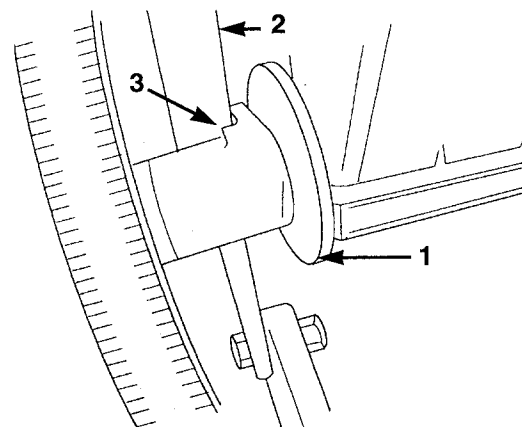

Figure 17
2. Rotate both axle supports so the raised rib contacts the mower handle (Fig. 17).